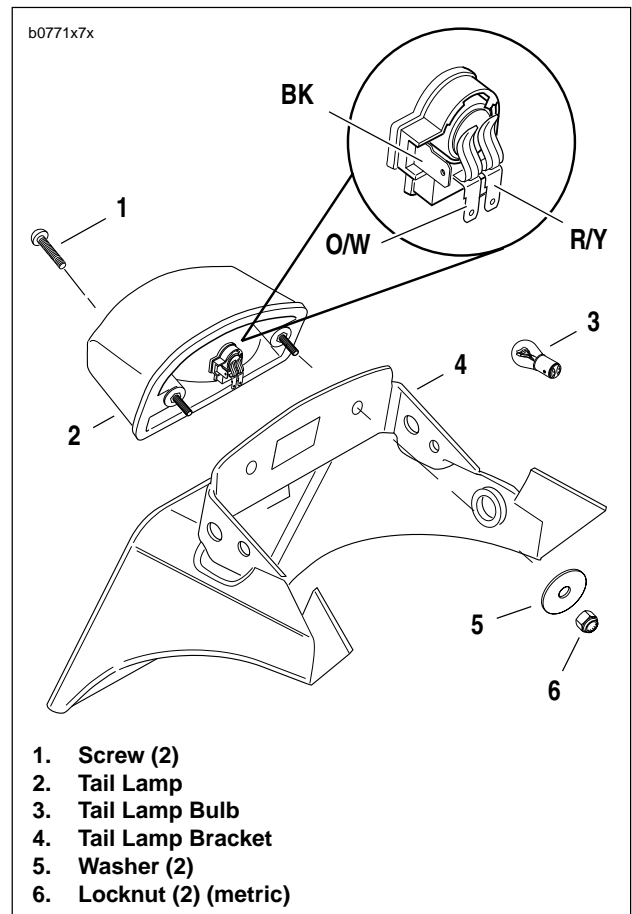

Figure 7-42. Tail Lamp
3. See Figure 7-42. Remove two locknuts (6) (metric) and washers (5) from within trunk.
1. See Figure 7-42. Attach the three tail lamp wires.
2. Install tail lamp using two locknuts (6) (metric) and washers (5).
3. If removed, install tail lamp bulb (3).
- b. Install tail lamp lens with two screws (1).